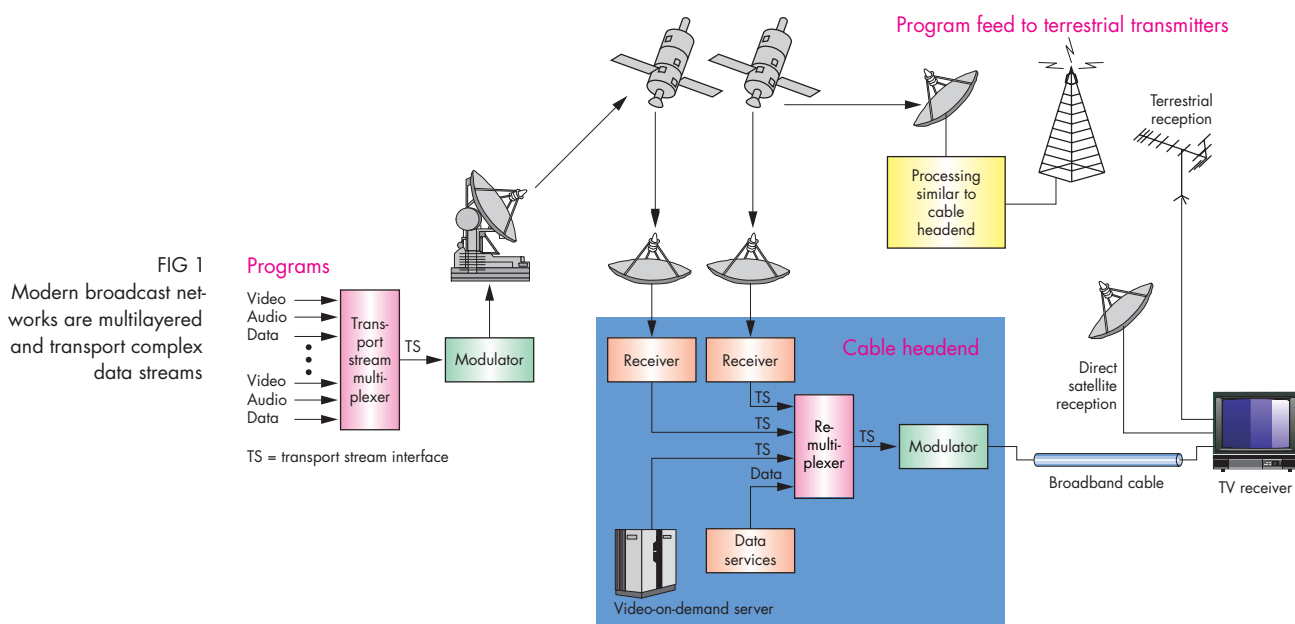

FIG 1 Modern broadcast networks are multilayered and transport complex data streams
Transport streams in broadcast networks are complex and branch at many points: local and regional cable headends or terrestrial transmitters allow broadcasting of local and regional program packages. Moreover, satellites, cables and terrestrial transmitters are networked for program feed (FIG 1). Network operators must guarantee error-free transmission of a transport stream (TS) and be able to verify this for any given time. To begin with, "error-free" means that transport streams have to be provided with structure and syntax in conformance with MPEG2